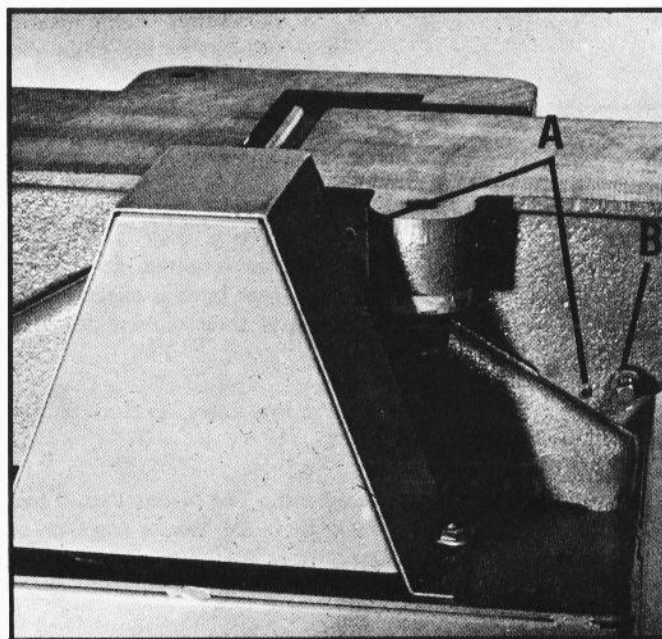

Fig. 21
1. To adjust the outfeed table "gib", loosen the two gib adjusting screws (A) Fig. 21, and make sure the rear table lock screw (B) is loose.
2. Proceed to retighten the two gib adjusting screws (A) starting with the lower screw first and as you proceed to the top screw, raise up gently on the outboard edge of the table being adjusted. This will offset any tendency of the table casting to "droop" or "sag" and permit the gib to be brought up to a good secure fit. The infeed table "gib" is adjusted in the same manner.